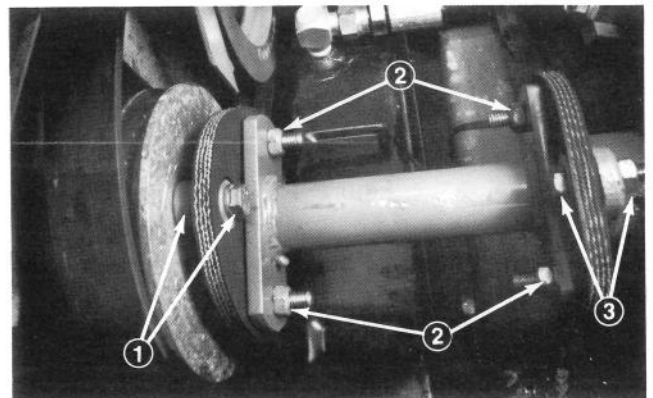

Figure 45
3. Remove two capscrews, lockwashers, flatwashers and spacers securing drive coupling assembly to engine pulley and two capscrews, flatwashers, small spacers and locknuts securing coupler to transmission hub (Fig. 45). Slide assembly out after capscrews are removed.
4. If drive coupling assembly must be disassembled, separate rubber couplings from power shaft by removing four nuts, flatwashers, capscrews and spacers (Fig. 45).
1. Assemble rubber couplings and power shaft with capscrews, spacers, flatwashers and nuts (Fig. 45).
2. Position drive coupling assembly between engine pulley and transmission hub, and align the holes. Secure drive coupling between pulley and hub with capscrews, lockwashers and flatwashers (Fig. 45). Tighten the capscrews alternately and evenly to prevent distortion of the rubber coupling.